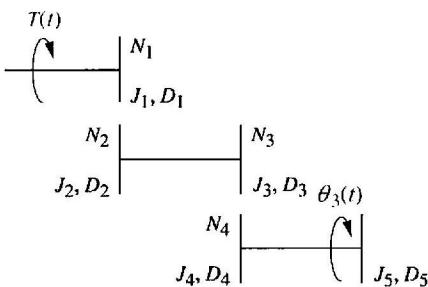

FIGURE P2.18
32. For the rotational mechanical system with gears shown in Figure P2.18, find the transfer function, $G(s) = \theta_3(s)/T(s)$. The gears have inertia and bearing friction as shown. [Section: 2.7]